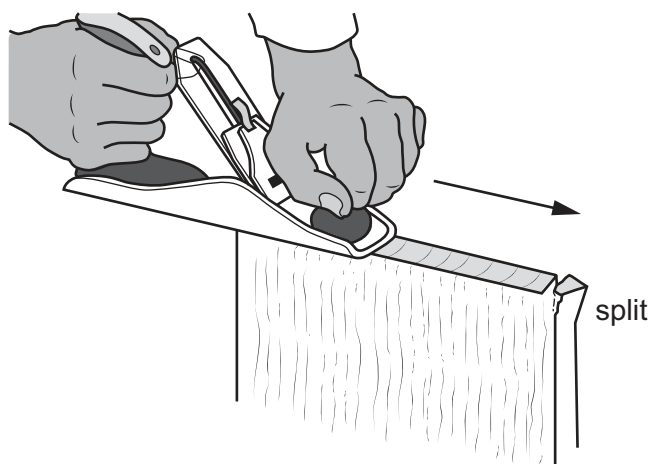

Fig. 6.1
- 6 Fig. 6.1 shows the end grain of hardwood being planed. When planing end grain there is a danger that it could split.